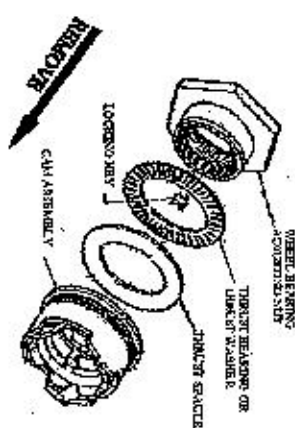

Figure 2
b) Remove the Cam assembly, Thrust Spacer and Thrust Bearing or Thrust Washers from the Wheel Bearing Adjusting Nut (Figure 2).
c) Remove the Locking Key (single or double bump) from the Wheel Bearing Adjusting Nut. Make sure the Adjusting Nut is not binding against the Locking Key or removal of the Locking Key will be most difficult. A thin sharp tool will help remove the Locking Key. After the Locking Key has been removed, remove Adjusting Nut from the Wheel Spindle (Figure 2). On some early vehicles the Locking Key is part of the Camming assembly. On these vehicles the Adjusting Nut must be removed after the Camming assembly has been removed.